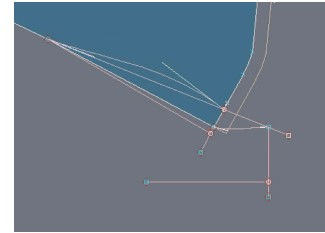

Fig 3.2 Collar editing
- Create the perpendicular line for 6cm, and the create another perpendicular line of it.(See Fig3.2)